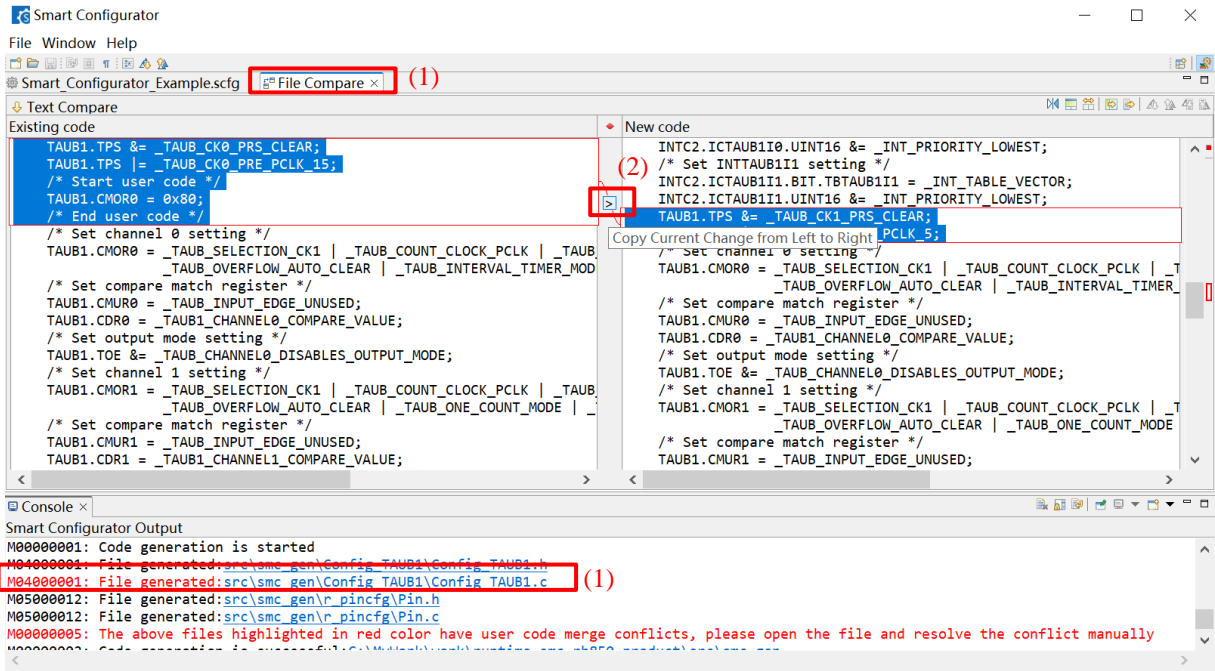

Figure 10-4 Code before resolving conflict
- 1) Click on the conflicting file in the console to open the “File Compare” view (Figure 10-4 Code before resolving conflict).
- 2) Click on “Copy Current Change from Left to Right” (Figure 10-4 Code before resolving conflict).